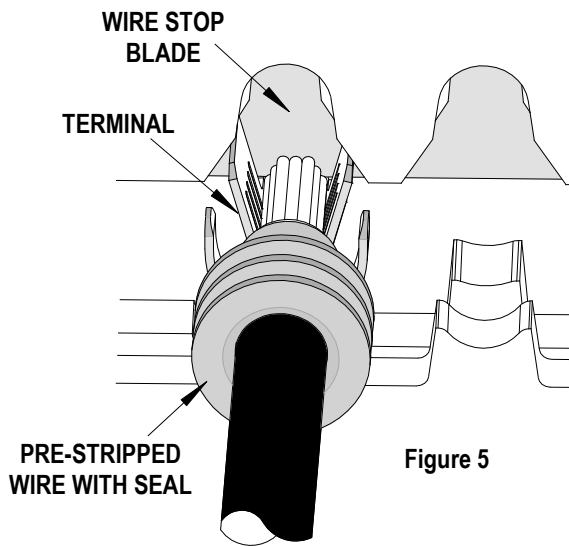

Figure 5
4. Return the locator to closed position. Make sure the locator latch is in lock position. Insert the proper wire with the seal over the terminal. Gently touch the wire stop with the end of the wire and align the seal with the grips on the terminal. See Figure 5 and 6.